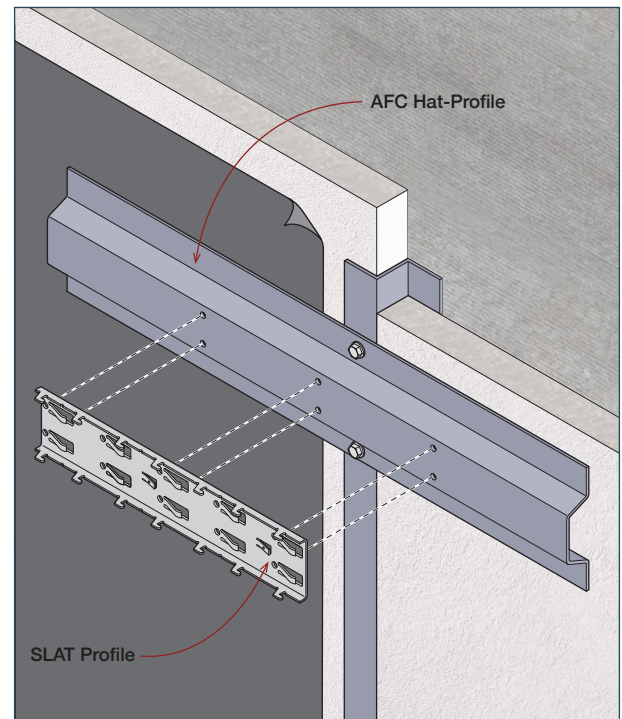

FIG. V3
- For structures with exterior insulation, follow the insulation manufacturer's installation instructions. Z-Profiles, the same depth as the exterior insulation, can be attached to the studs. Then, AFC supplied Hat-profiles (6061-T6 Black Ano) can then be fastened to these Z-Profiles. (FIG. V3 & V4)
- Hat-Profile Attachment (**FIG. V3 & V4**), profiles run horizontally): Use a stainless steel 4.8mm x 19mm self-tapping screw (By AFC)